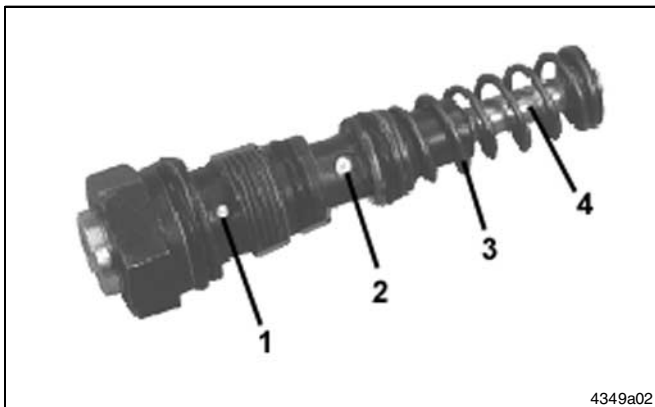

Fig. 5 Pump Element
During the operation the piston (Fig. 5, item 4) sucks in lubricant from the cartridge via the suction bore hole (Fig. 5, item 2) and delivers it to the connected lubrication point through the bore hole (Fig. 5, item 1). An integrated check valve prevents the lubricant from returning to the cartridge.